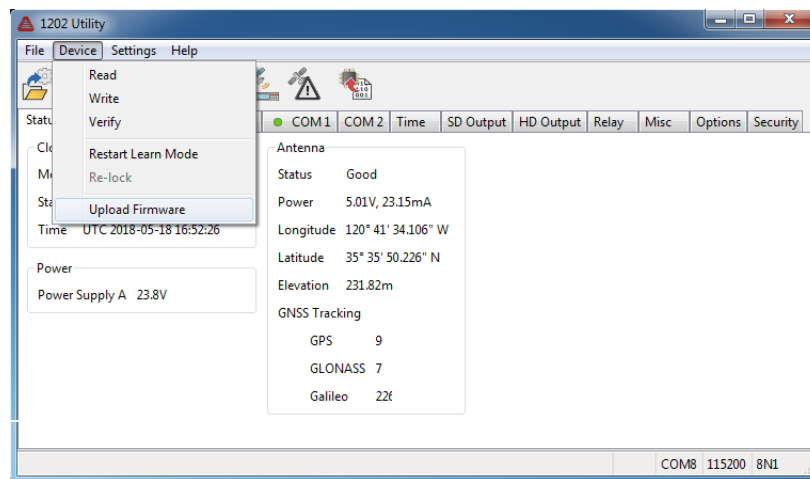

Figure 7.24: Starting the Upload Process
1. Select **Device > Upload Firmware** (see Figure 7.24), or click the Upload Firmware button, and you will open a file browser window to select the firmware file. Normally, this should be a .zip file.